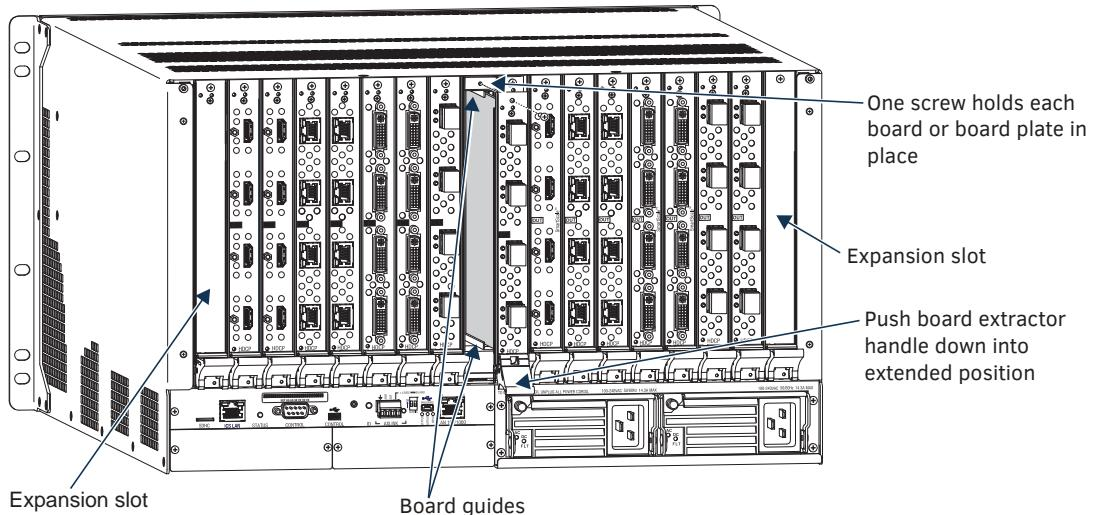
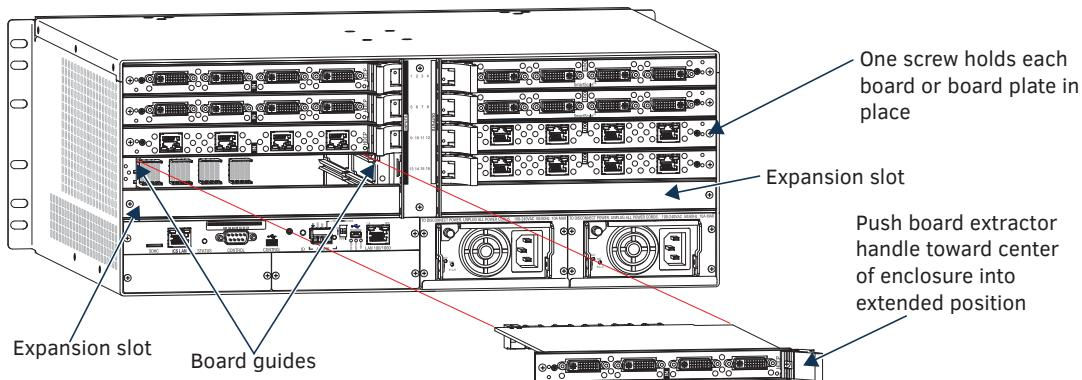

FIG. 109 Vertical boards – Remove screw, push board extractor handle down, and then pull board straight out
FIG. 110 Horizontal boards - Remove screw, push extractor handle right (input) or left (output), pull board straight out
4. **Remove blank board plate** – Remove the screw that holds the board plate in place (for Enova DGX 3200, see FIG. 109; for Enova DGX 800/1600/6400, see FIG. 110). Pull the plate out of the board slot opening (the tab on the end of the board plate fits in a slot near where the ejector handle would otherwise go). The plate consists of an aluminum sleeve with a black metal piece, which slides in and out of the sleeve, and an EMI (Electromagnetic Interference) gasket.
Remove current board – Remove the pan head screw that holds the board in place (for the Enova DGX 3200, see FIG. 109; for the Enova DGX 800/1600/6400, see FIG. 110). Push on the board's extractor handle as far as it will go (about a 45° angle). With the handle extended, carefully pull the board straight out of the board slot. Place the board in an ESD approved static shield bag and set aside.
6. **Audio Insert/Extract Boards only** – See page 144 for information on setting the DIP switches (this is the only way to configure the insert/extract functionality). Flip the DIP switch for each connector that needs its setting changed. We recommend writing down the setting for each connector to make verifying correct audio switching behavior easier in Step 14. *AIE Boards can only be installed in an expansion slot (FIG. 109 and FIG. 110).*
7. **Install vertical boards** – With the board's extractor handle in the extended (unlocked) position, line up the board's edges on the board guides that are along the top and bottom of the board slot (FIG. 109).
Install horizontal boards – With the board's extractor handle in the extended (unlocked) position, line up the board's edges on the board guides that are along the left and right of the board slot (FIG. 110). Note that input boards have board guides at the top of the slot and board guides for the output boards are at the bottom of the slot due to their reversed orientation in the enclosure.